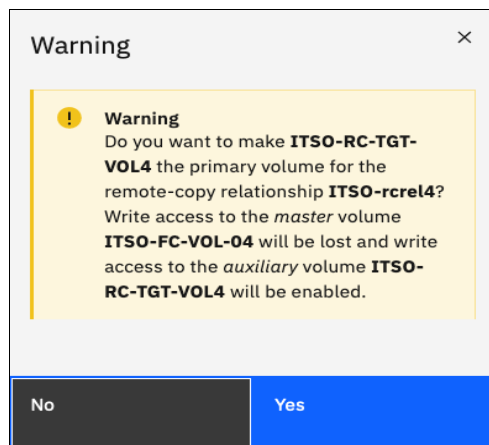

Figure 10-137 Switching the master-auxiliary direction of a relationships changes the write access
3. Because the master-auxiliary relationship direction is reversed, write access is disabled on the new auxiliary volume (former master volume), and it is enabled on the new master volume (former auxiliary volume). A warning message is displayed, as shown in Figure 10-137. Click **Yes**.